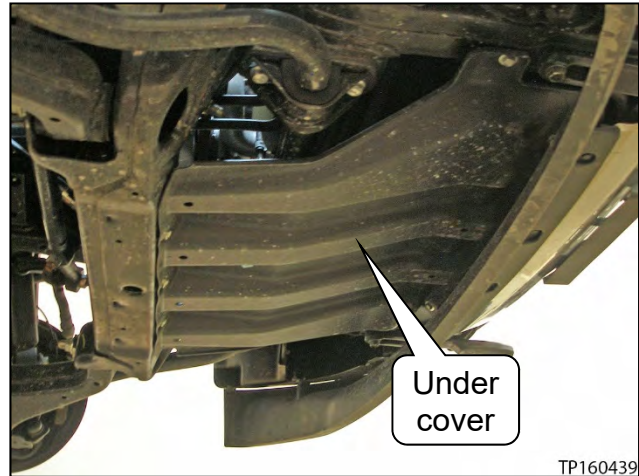

Figure 5
6. Raise the vehicle, and then remove the front under cover (see Figure 5).